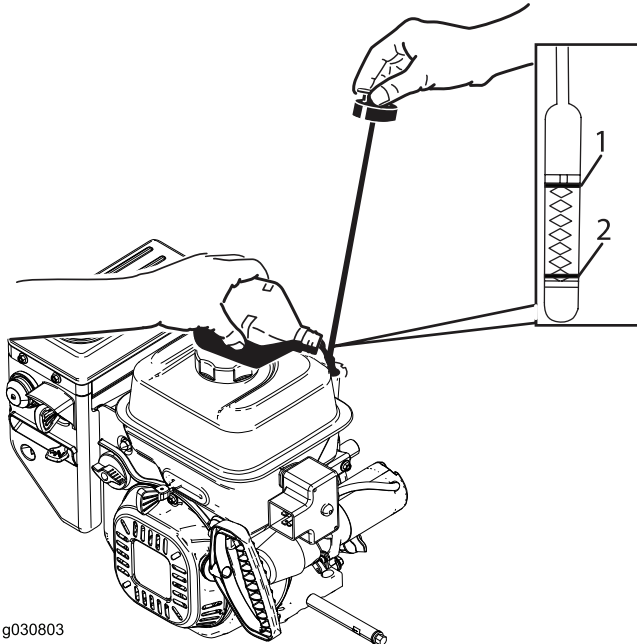

Figure 32
2. Remove the dipstick and check the oil level (Figure 32). If the oil level is below the Add mark on the dipstick, add oil. Refer to Changing the Engine Oil (page 21).